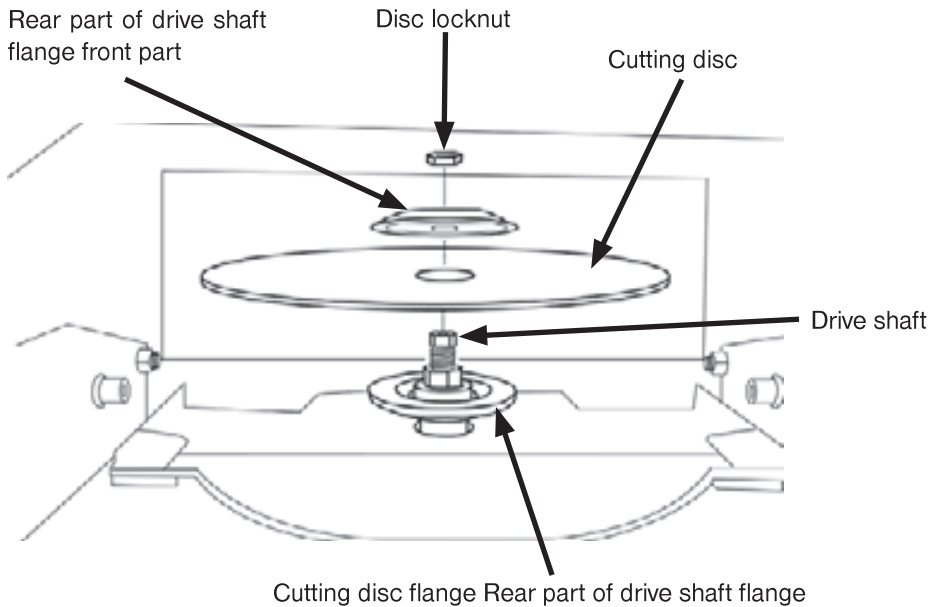

Fig. 7
The cutting disc is mounted under the machine table (4) starting from the right side. Position the tile cutter in such a way that it is easily accessible to you. Set the cutting disc above the driveshaft on the rear part of the flange. The bore in the disc must fit exactly onto the socket of the flange (see Fig 7).